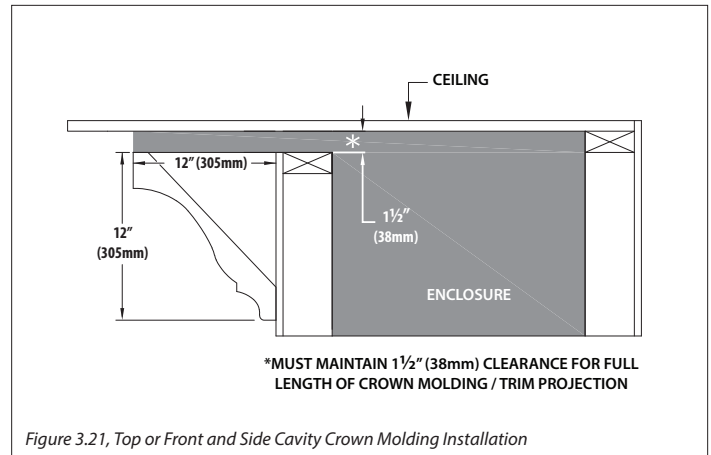

Figure 3.21, Top or Front and Side Cavity Crown Molding Installation
- Figure 3.21 shows the installation of crown molding or similar trim work that goes up to the edge of the air discharge opening. This molding or trim cannot decrease the minimum opening requirement.